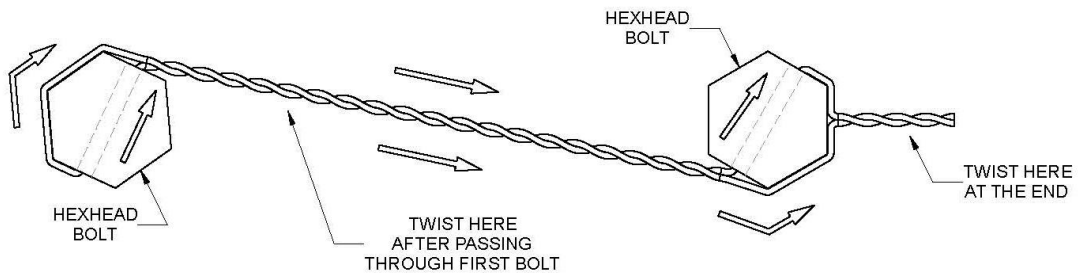

Figure 2
- ▶ Tighten all insert retainer screws. Then tighten the riser setting plate bolts leaving approximately 1/16 inch play between the riser slip setting ring and its corresponding insert retainer plate as provided by the bushing. (Important: all setting plate bolts and insert retainer screws retaining the slip setting ring and insert retainers must be secured with safety wire to keep them from backing out. Stainless Steel 3/32" safety wire is (recommended). **(See Figure 2)**)